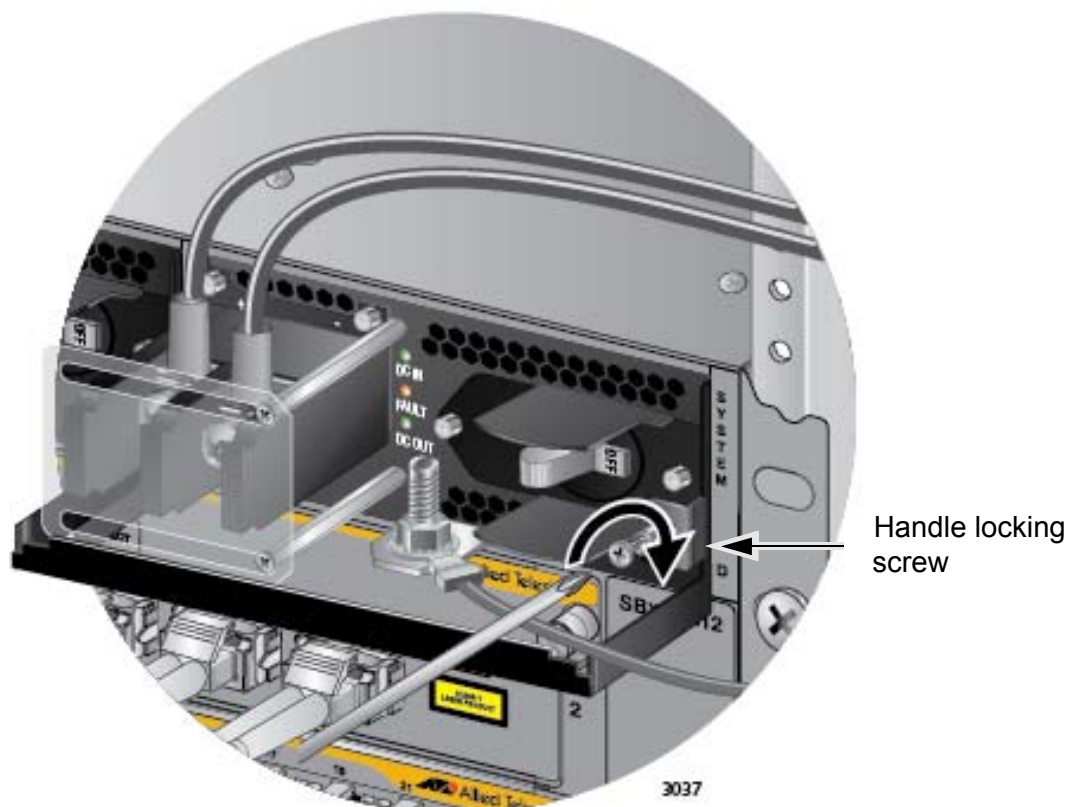

Figure 117. Tightening the Handle Locking Screw
9. With a #2 Phillips-head screwdriver, tighten the handle locking screw to secure the power supply to the chassis. See Figure 117 on page 164.
7. With a #2 Phillips-head screwdriver, tighten the handle locking screw to secure the power supply to the chassis. See Figure 117 on page 164.